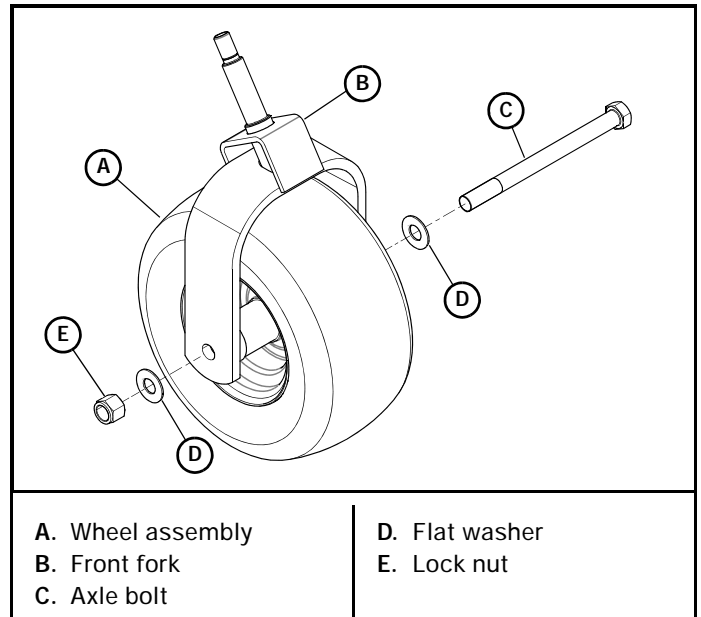

Figure 4-30
7. Slide the wheel assembly between the caster fork legs and assemble to the fork using the axle bolt, flat washers, and lock nut. Figure 4-30